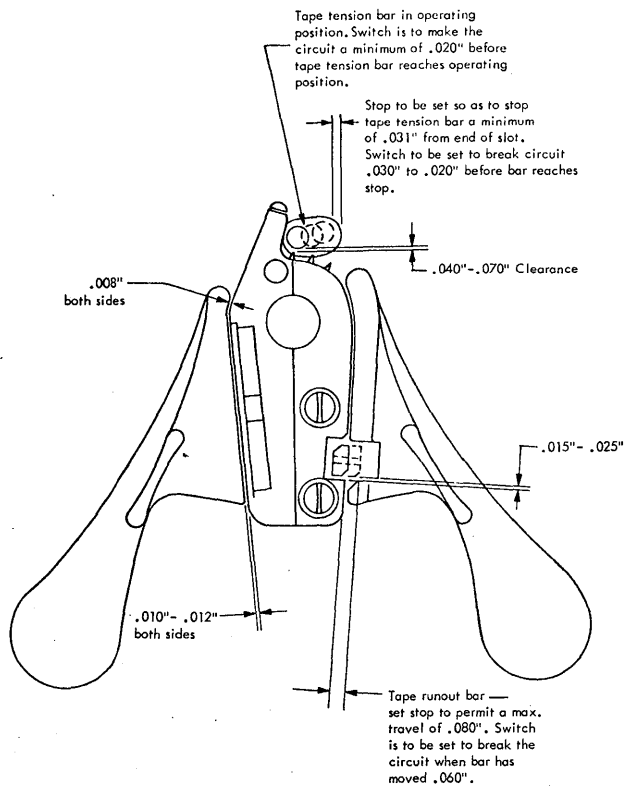
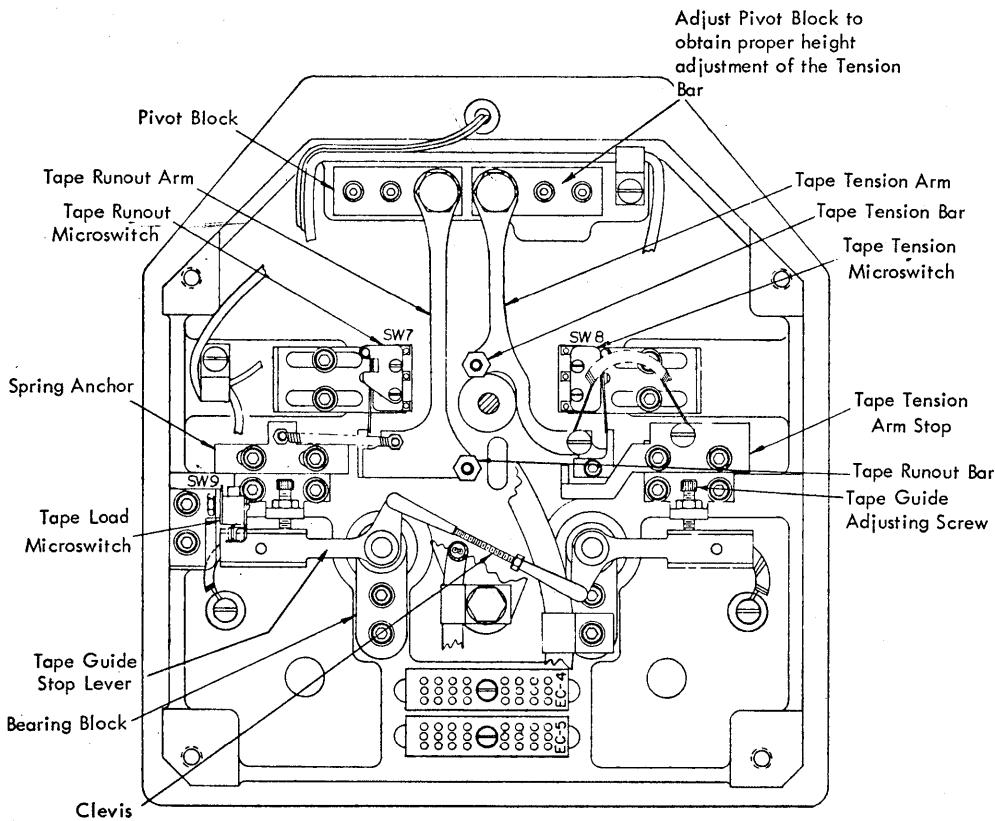

Figure 4-10. Read Head Adjustment
Figure 4-11. Center Plate Casting Assembly – Rear View
The clearance between the tape guides and read head should be  $.008'' +.001'' - .002''$  at the top, and approximately  $.010''$  to  $.012''$  at the bottom of the guides (see Figure 4-10). Too close adjustment of tape guides (less than  $.005''$ ) causes premature feed hole elongation. Make certain that the curved portion of the tape guide is concentric to the curved portion of the read head. Adjust each tape guide as follows:
1. Loosen the two screws holding the bearing block. Back off tape guide adjusting screw. Check to see that the clevis is allowing the tape guide to strike the read head (see Figure 4-11).
4. Turn tape guide adjusting screw until it touches the tape guide stop lever. Turn this screw to obtain clearances shown in Figure 4-10. Tighten the locknut.
1. Loosen the microswitch mounting bracket (Figure 4-11).
Adjust the length of the clevis assembly (Figure 4-11) to allow either the right or the left tape guide to be moved  $\frac{1}{8}''$  to  $\frac{1}{4}''$  from the head without moving the other tape guide.
2. Operate the bar with the tape guides closed. It should not strike top edge of the notch in the right tape guide. The bar should be as close to the top of this notch as practical. See Figure 4-10.
3. If it is necessary to move the bar to satisfy item 2, loosen two screws in the tape runout arm pivot block. See Figure 4-11. Then move the block to position the bar properly.
4. Adjust stop to permit maximum travel of  $.080''$  of tape runout bar from flush position with read head, see Figure 4-10. This adjustment is made to prevent the paper tape from being placed on the wrong side of the runout bar when tape is threaded over read head.
If the tape runout bar (Figure 4-10) becomes excessively worn, it may be rotated 180 degrees and used again. To do this:
2. Loosen nut that holds bar to tape runout arm. See Figure 4-11.
1. Loosen two screws in the microswitch mounting plate. See Figure 4-11.
2. Position the tape runout switch so that its contact breaks when the tape runout bar has moved .040" to .060" from its flush position with the read head. See Figure 4-10. This adjustment insures sufficient over-travel for switch operation.
1. Position the tape tension arm pivot block in Figure 4-11 so that the tape tension bar moves without touching any part of the read head. See Figure 4-10.
2. Position the tape tension arm pivot block so that a clearance of .040" to .070" exists between the bottom of the tape tension bar and the topmost pin on the pinwheel. See Figure 4-10. This adjustment causes the tape to ride over the window at the most desirable angle.
If the tape tension bar (Figure 4-10) becomes excessively worn, it may be rotated 180 degrees and used again. To do this:
2. Loosen the nut that holds the bar to the tape tension arm. See Figure 4-11.
1. With no tape in machine, set the tape tension arm stop so that the tape tension bar is approximately .030" from the end of the slot in the front casting. See Figure 4-10.
2. With tape in the machine, move the tape tension microswitch to the right (Figure 4-11) until the switch lever rests on the tape tension arm. Do not preload the switch lever against the tape tension arm.
3. Position the tape tension arm stop so that it is .030" to .020" from tape tension arm when the microswitch opens. See Figure 4-11.